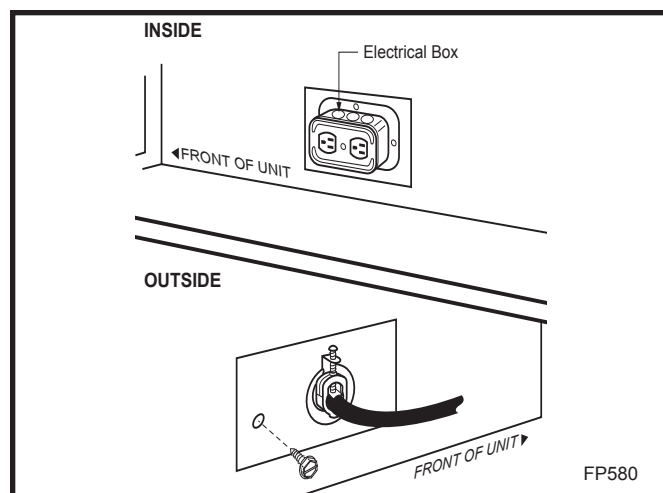

Fig. 9 EB-1 receptacle.
1. Unscrew the retaining screw from the EB-1 base plate and remove the EB-1 assembly from the appliance. (Fig. 9)
4. Feed the supply line in through the EB-1 opening in the side of the appliance and then through the back of the EB-1 assembly. (Fig. 9)